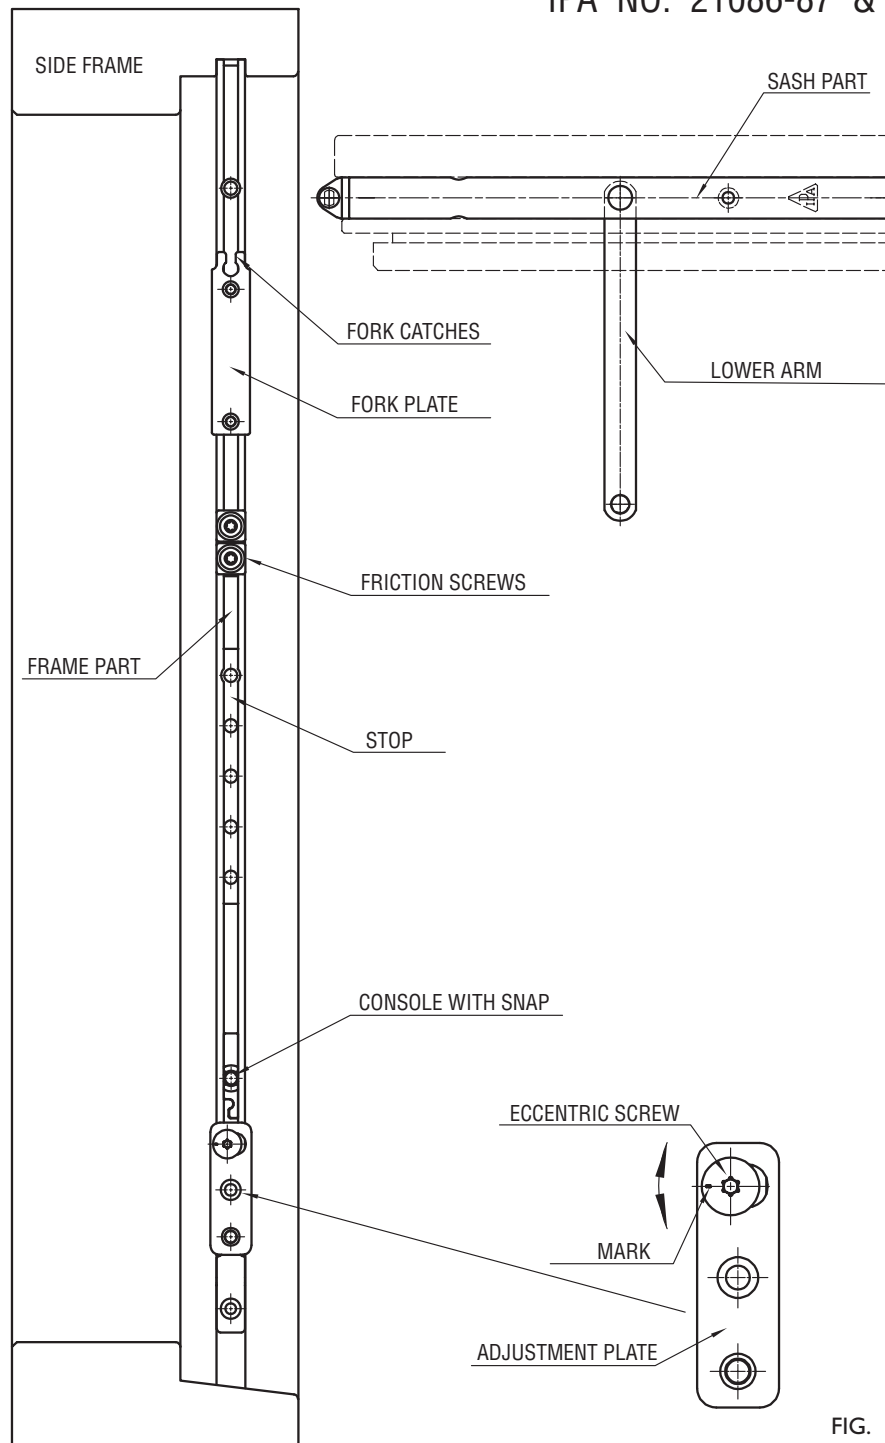

FIG. 1
1. Side sash & -frame and top sash & -frame are made with through-going grooves, see figure 1.